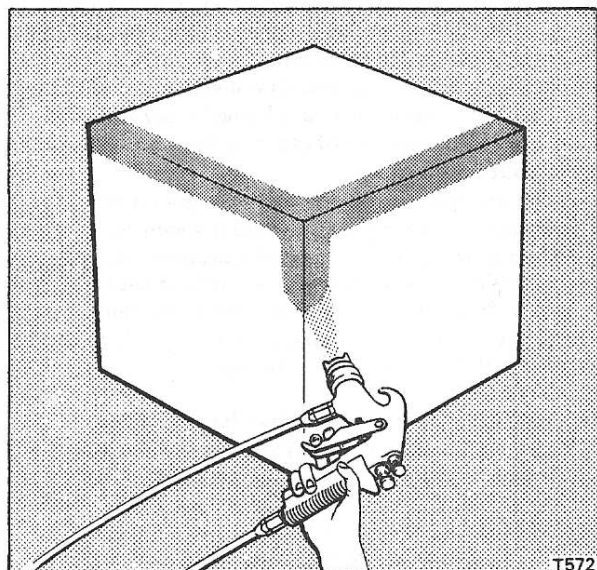

Fig. S72 Outside corner spraying
2. **Outside corner spraying.** When spraying an outside corner the gun should be held directly facing the corner edge so that the adjoining surfaces are sprayed simultaneously (see Fig. S72). The spray pattern should be across the corner edge, i.e. the pattern must be horizontal for a vertical corner and vertical for a horizontal corner.